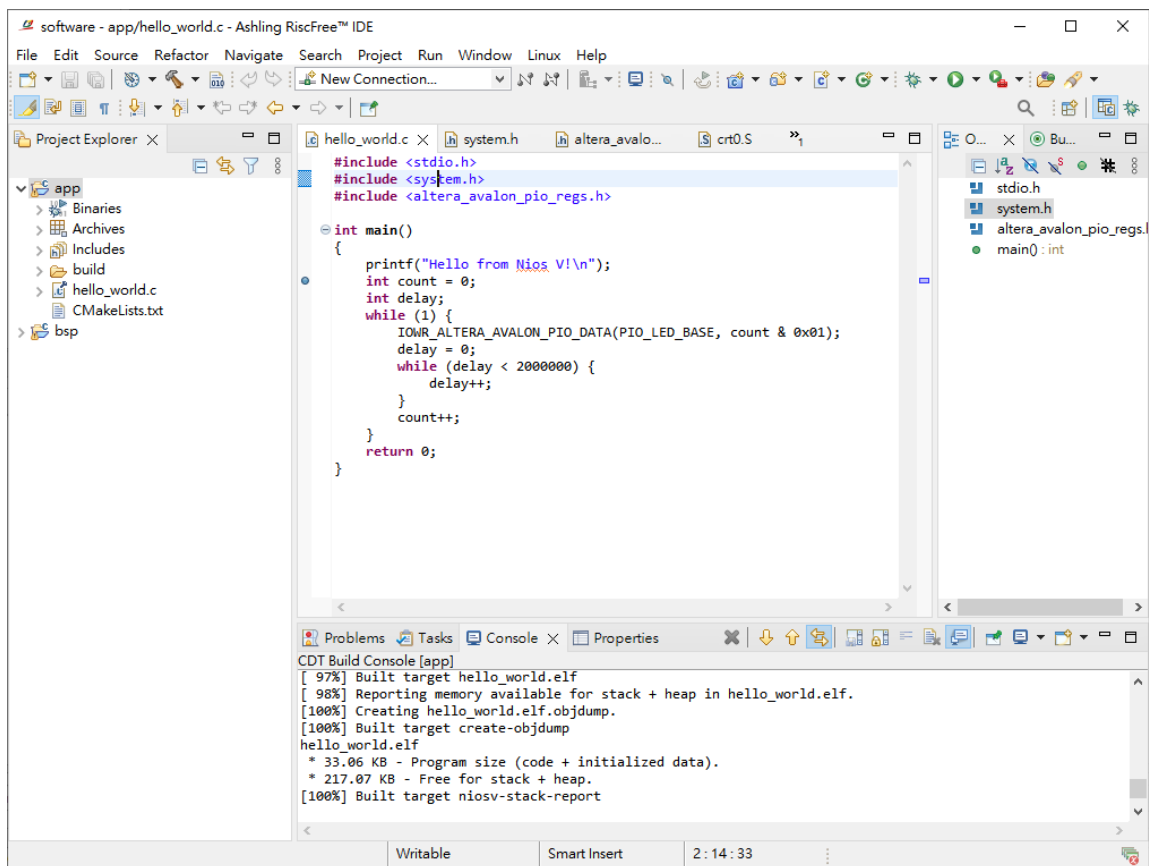

Figure 3-37 Set Breakpoint
1. In the **hello_world.c**, double-click the front of the line which is needed to set breakpoint. See Figure 3-37.